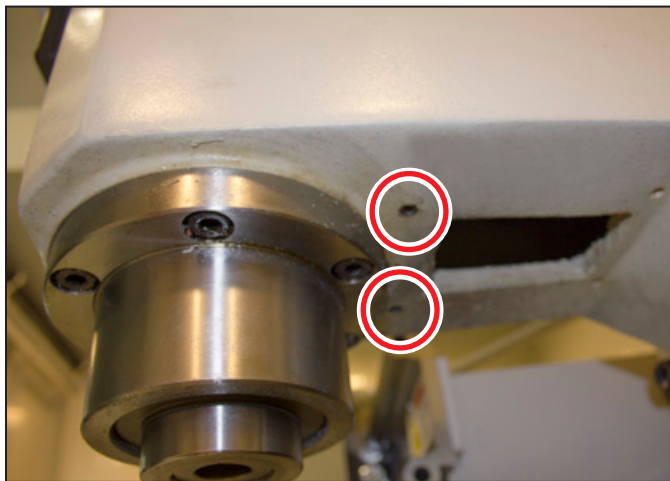

Figure 1
1. Identify two pre-existing mounting holes behind spindle on head casting (see **Figure 1**).